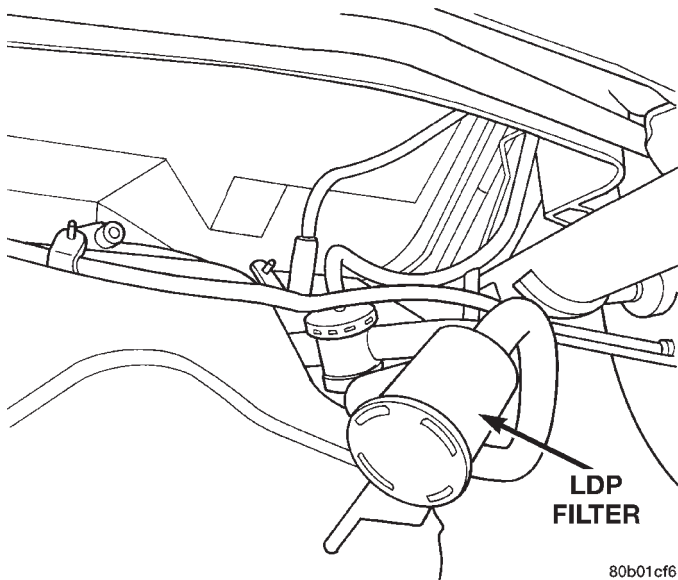

Fig. 23 Evap Components
- (7) Position transmission jack under fuel tank assembly.
- (8) Remove fuel tank straps bolts. Passenger side first.
- (9) Lower fuel tank and remove the purge line and vent line (Fig. 23).